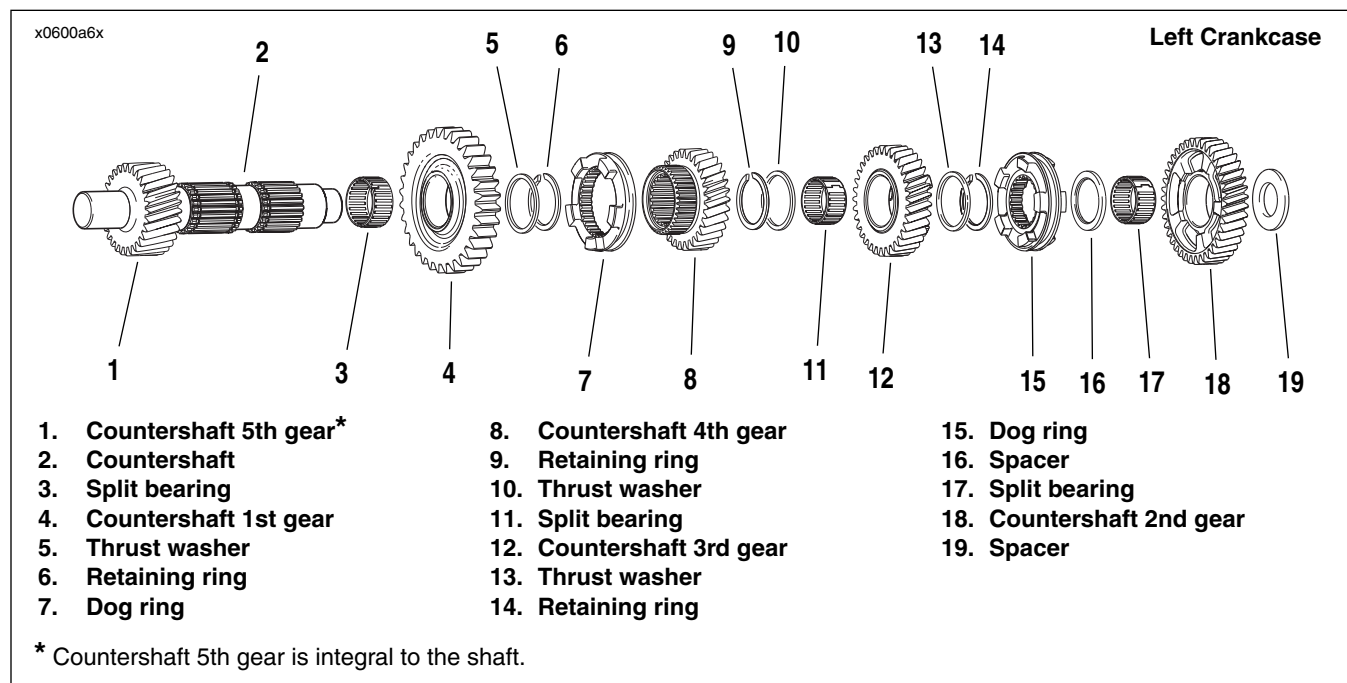

Figure 6-64. Transmission Countershaft Assembly Once Removed from Left Crankcase/Disassembly
1. See Figure 6-64. Install **new** split bearing (3) in 1st gear position on mainshaft.
2. Install 1st gear (4) and thrust washer (5).
3. Using RETAINING RING PLIERS (Part No. J-5586), expand and install **new** retaining ring (6).
4. Install dog ring (7) onto 4th gear (8). Now install dog ring and gear assembly onto countershaft.
5. Expand and install **new** retaining ring (9).
6. Install thrust washer (10).
7. Install **new** split bearing (11) in 3rd gear position on mainshaft.
8. Install 3rd gear (12) and thrust washer (13).
9. Expand and install **new** retaining ring (14).
10. Install dog ring (15). Make sure to install with dog ring facing same direction as when it was removed.
11. Install spacer (16).